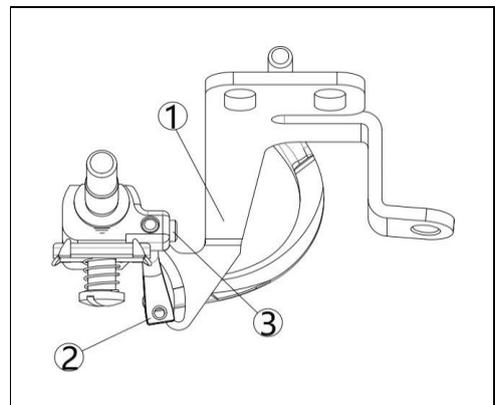

Figure 7-12
(1) Loosen the fixing screw③ of the upper decorative thread guide②. (Figure 7-12)
(3) Align the thread hole of the upper decorative thread guide② with the elongation line of the slot on the decorative thread guide①. (Figure 7-12)
(4) Tighten the fixing screw③. (Figure 7-12)